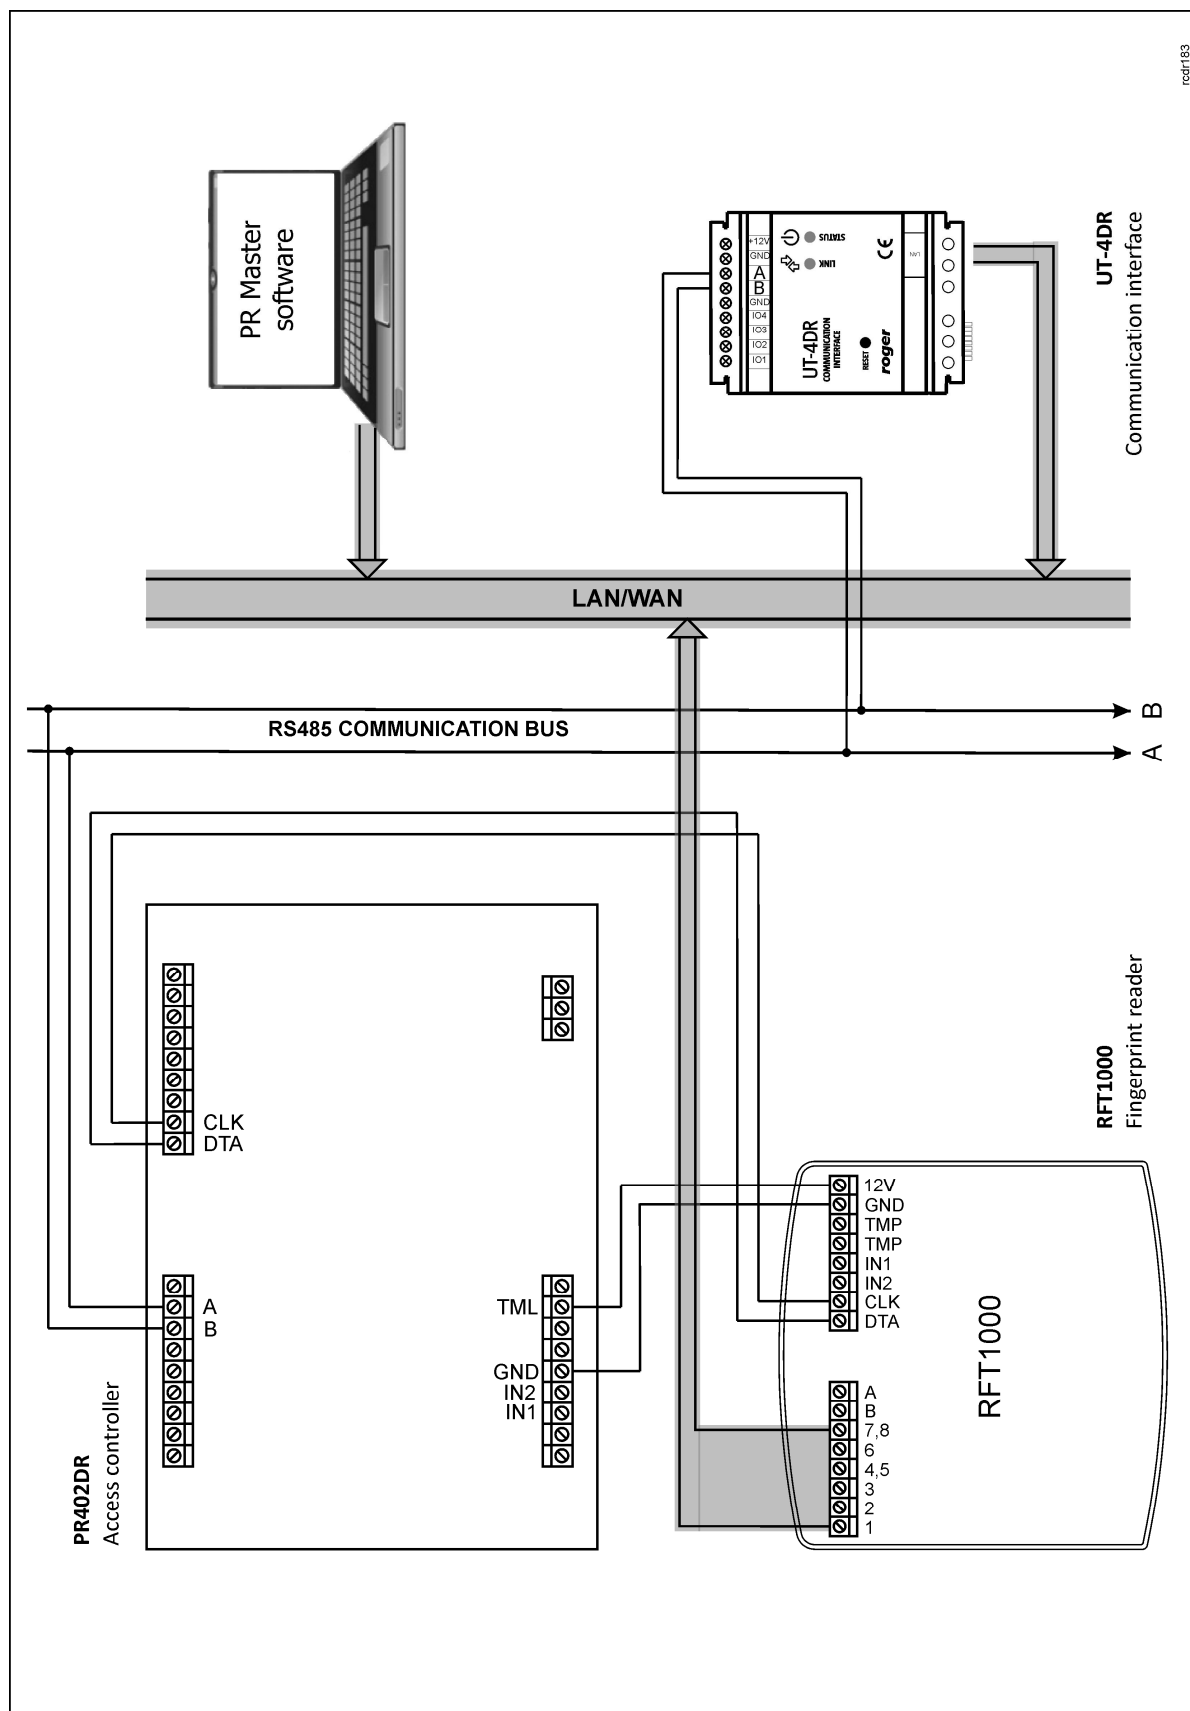
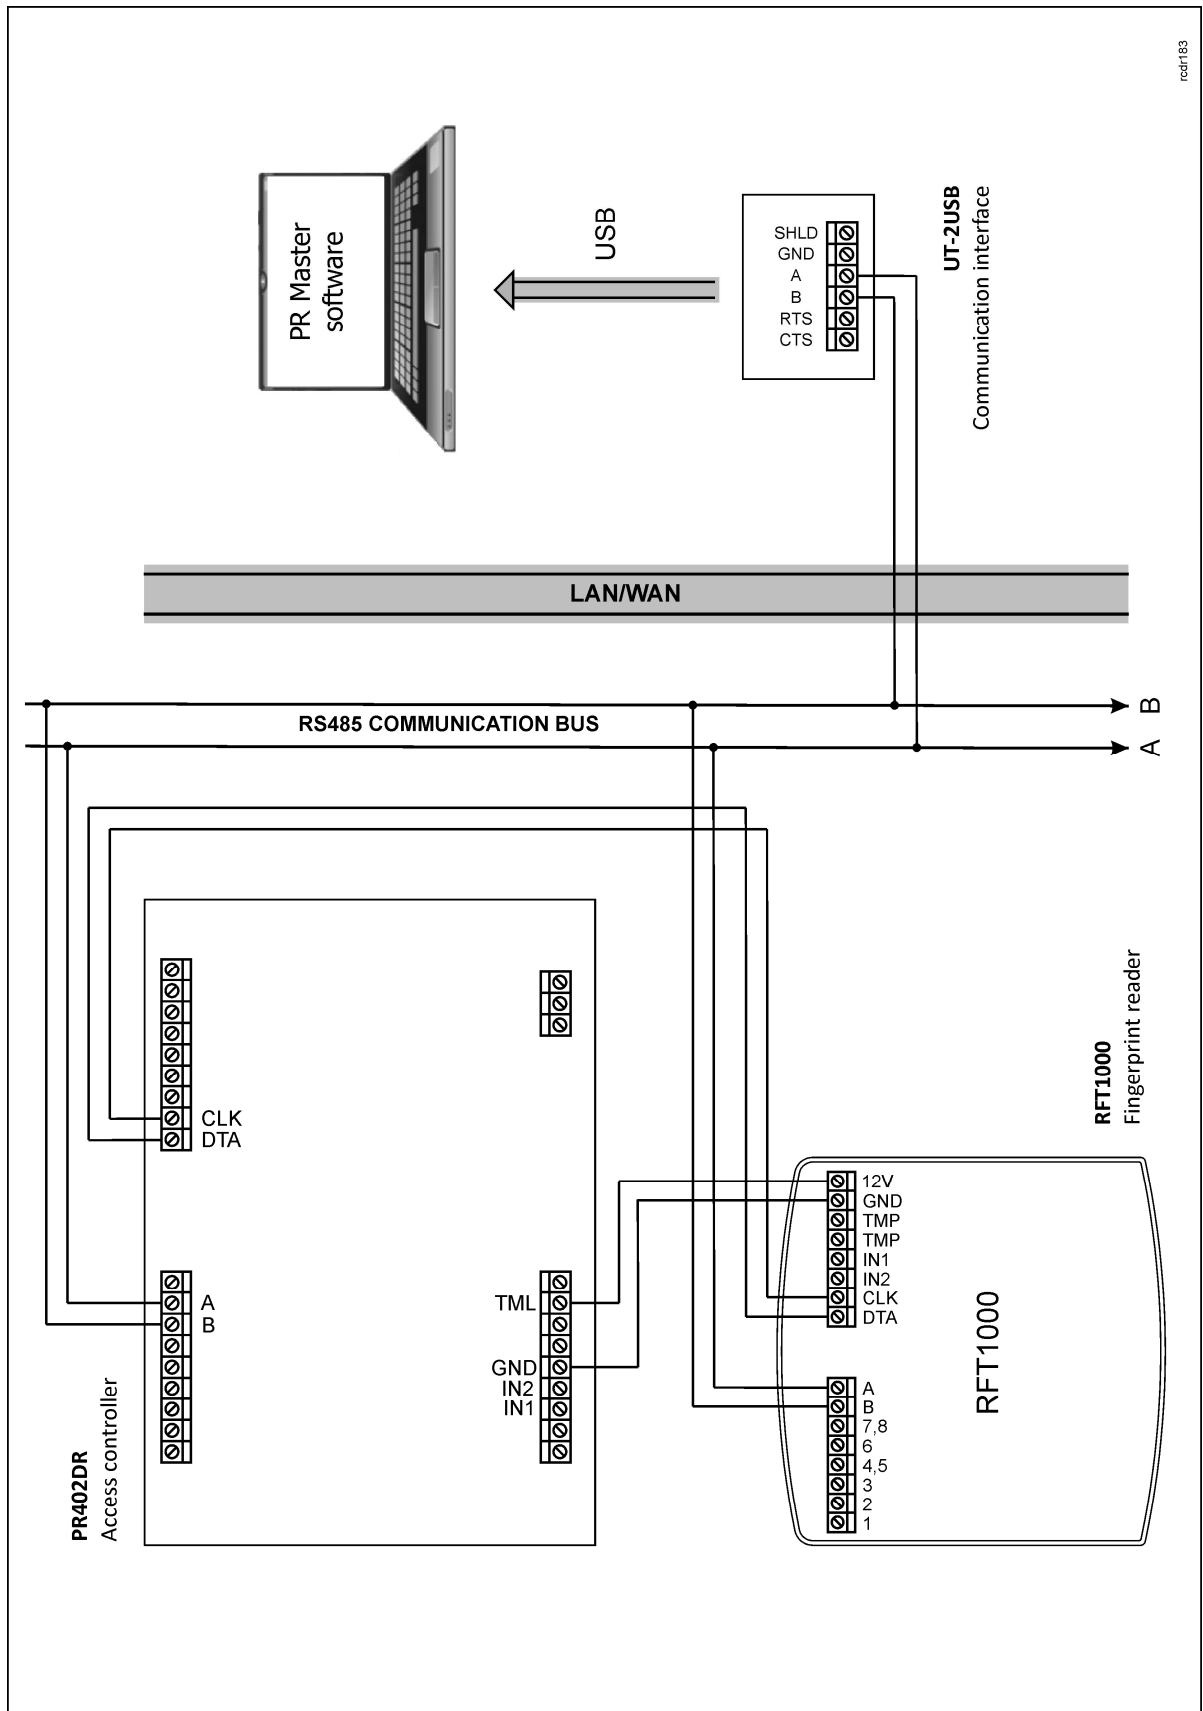
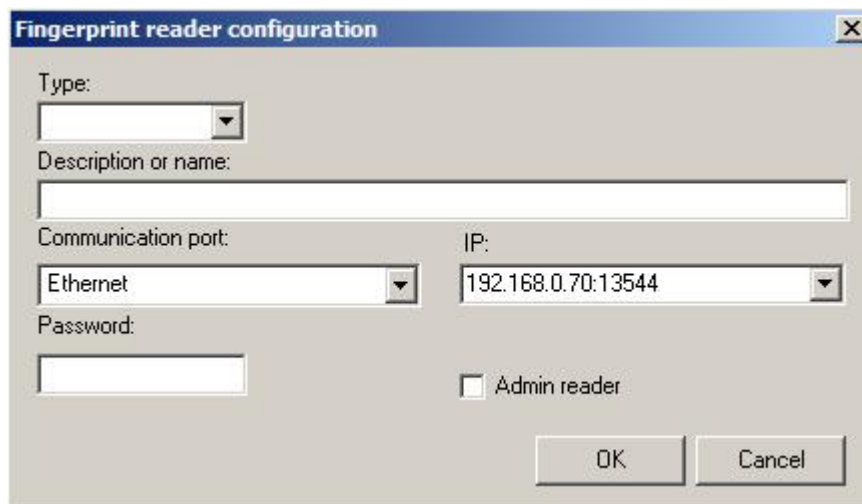

Fig. 2 Connection diagram for RFT1000 reader and PR402DR access controller – configuration through Ethernet (recommended)
Fig. 3 Connection diagram for RFT1000 reader and PR402DR access controller – configuration through RS485
Fig. 9 Connection with RFT1000 in PR Master software
1. Connection of the reader to network through Ethernet port according to fig. 2. or through RS485 port according to fig. 3. By default, RFT1000 is configured for Ethernet communication.
3. Connection of RFT1000 to controller by means of RACS CLK/DTA interface according to fig. 2.
RFT1000 reader can communicate with PR series controller by means RACS CLK/DTA bus. After connection according to fig. 2, RFT1000 reader must be configured for communication through RACS CLK/DTA bus, while PR series controllers by default are configured for such communication.
In order to connect with RFT1000, select the option **Fingerprint readers** in the main window of PR Master software and then click the button **Add**. In the window shown in fig. 9, select RFT1000 reader and then select communication channel: Ethernet or RS485. The channel must be the same as previously selected in RogerVDM software and it must be in accordance with applied cabling – see fig. 2 (Ethernet) or fig. 3 (RS485).
Such password must be then entered when establishing connection with the reader by means of RogerVDM (see fig. 6) and when establishing connection with reader by means of PR Master (see fig. 9).